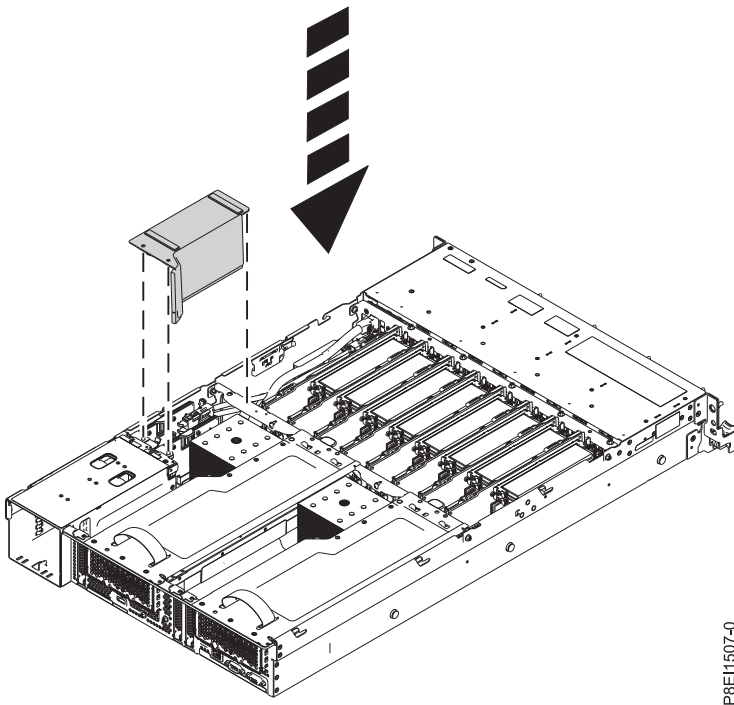

Figure 49. Installing the power riser air baffle
4. Install the power riser air baffle. See Figure 49 on page 50. Ensure that the holes in the baffle align with the pins on the system.